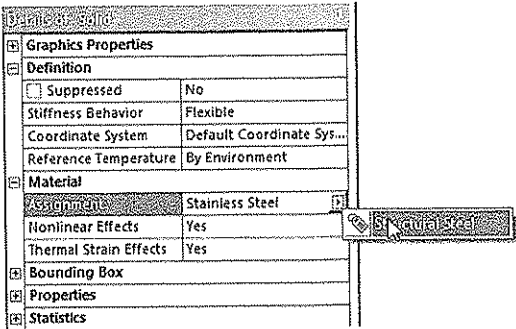

Figure 9-40 Selecting the *Structural Steel* option from the drop-down list
- 5. Select the **Structural Steel** option from the **Assignment** drop-down list, refer to Figure 9-40, to apply structural steel material to the component.